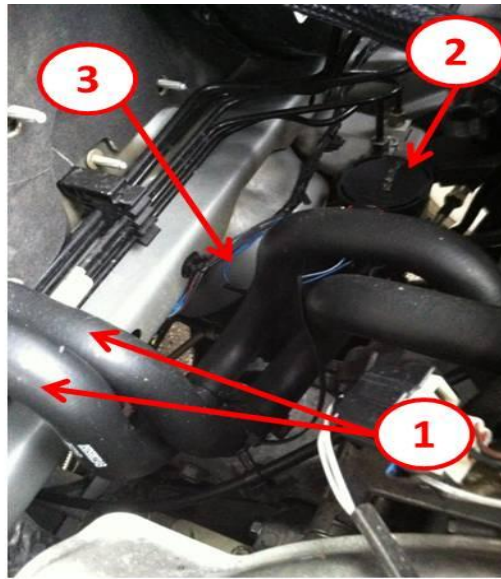

Fig. 1 Purge Solenoid Wire Harness
12. To ensure that the purge solenoid wiring harness (Fig. 1) does not come in contact with the heater hoses, the wire harness will require a slight modification.